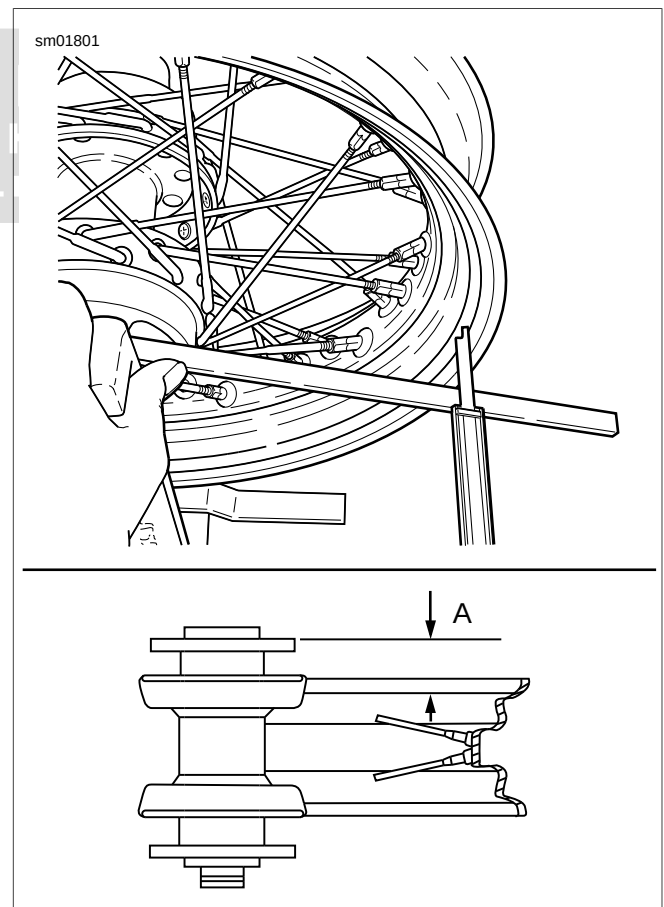
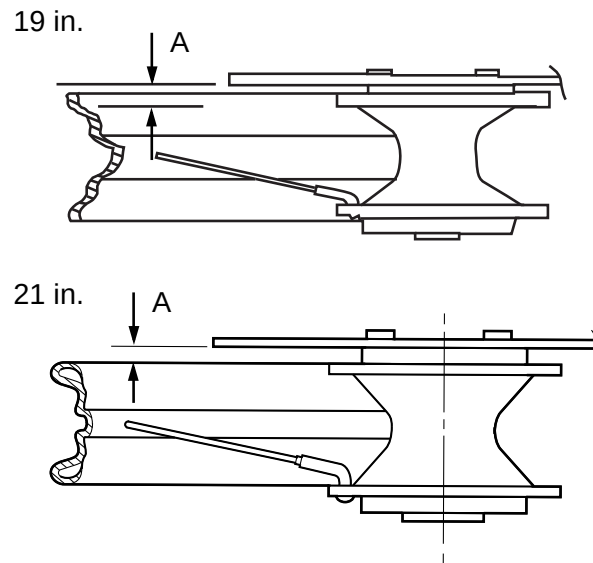

Figure 2-61. Positioning 16 Inch Wheel Hub
Figure 2-62. Centering 19 Inch and 21 Inch Hub
4. See Figure 2-61. See Figure 2-62. Refer to Table 2-21. The hub must be positioned correctly with the rim. Lay a straightedge across the primary hub brake disc mounting face and the rim. Measure the distance from the straightedge to the rim as shown. If this dimension does not match the dimension listed in the table, loosen and tighten the four spokes accordingly. Use SPOKE WRENCH (Part No. HD-94681-80).
See Figure 2-61. See Figure 2-62. Refer to Table 2-21. Dimension "A" must be maintained to ensure centering of wheel on motorcycle.